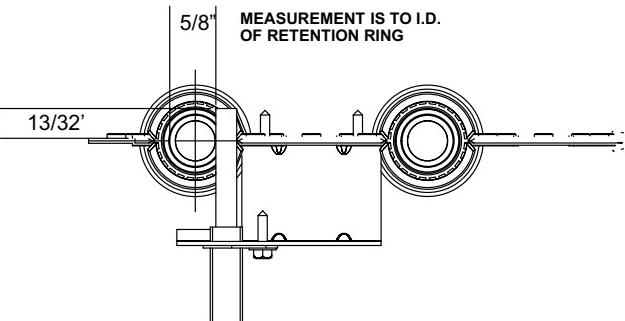
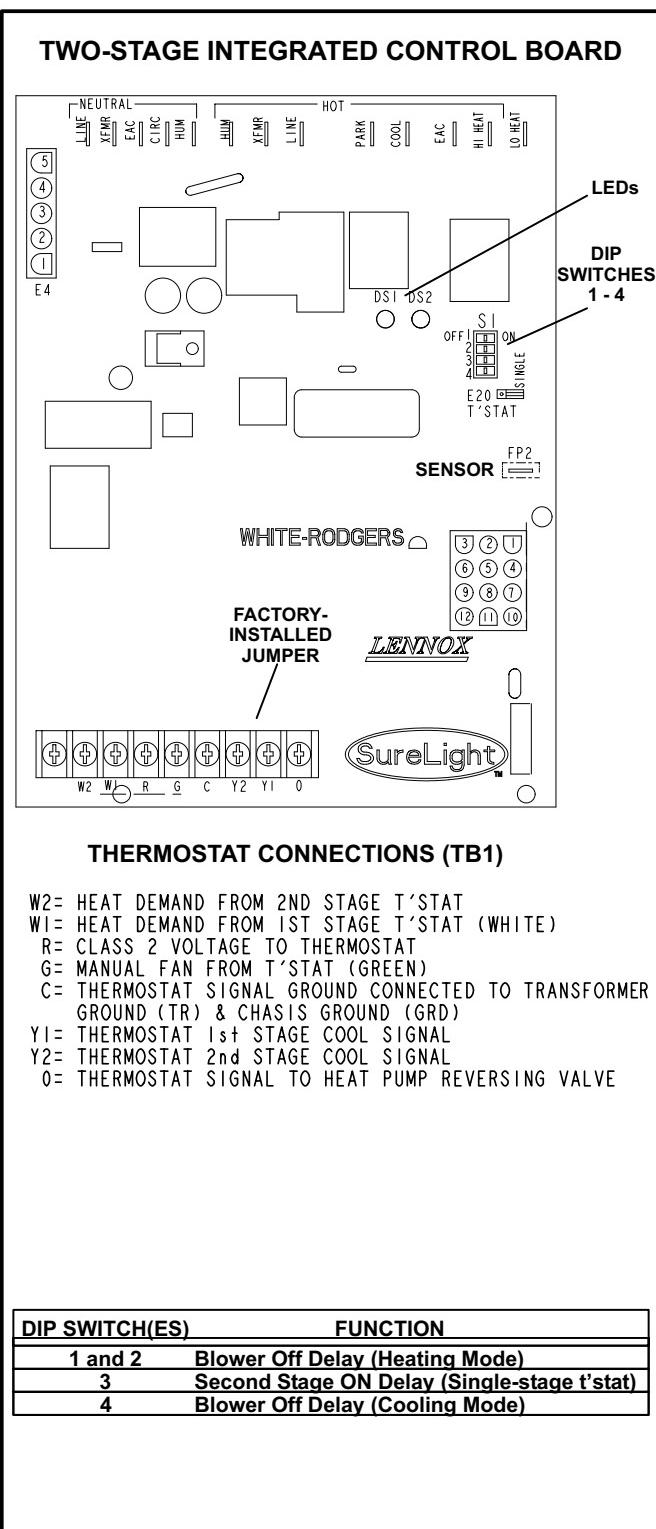

FIGURE 9
FIGURE 14
All G32-5 and later units are equipped with the Lennox two-stage integrated SureLight control board. The system consists of a ignition control board (figure 14 with control terminal designations in tables 7, 8 and 9) and ignitor (figure 9). The board and ignitor work in combination to ensure furnace ignition and ignitor durability. The board controls all major furnace operations. The board features two LED lights, DS1 and DS2 for troubleshooting. The board also has two accessory terminals rated at (1) one amp each. See table 10 for troubleshooting diagnostic codes.
The control can be utilized in two modes: SINGLE-STAGE thermostat or TWO-STAGE thermostat. The thermostat selection jumper E20, located just below dip switches 1 through 4 (figure 14), must be positioned for the particular application. The jumper is factory set on "TWO" for use with a two-stage thermostat with two stage heat. Re-position jumper to "SINGLE" for use with a single stage thermostat with two stage heat.
Two diagnostic LED'S are located on the two-stage integrated control board. See figure 14. These light flashes correspond with the codes detailed in table 10.
Diagnostic LEDs are labeled DS1 and DS2. See figure 14 for location of diagnostic LEDs.